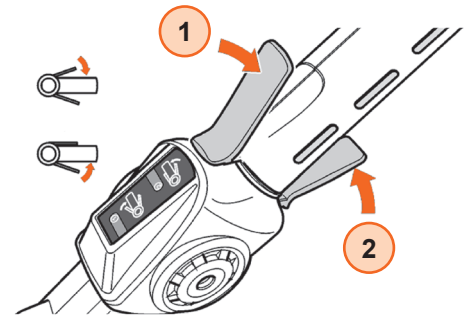

Figure 12
First press and hold the switch interlock ①. Then press the On/Off switch ② (see Figure 12).